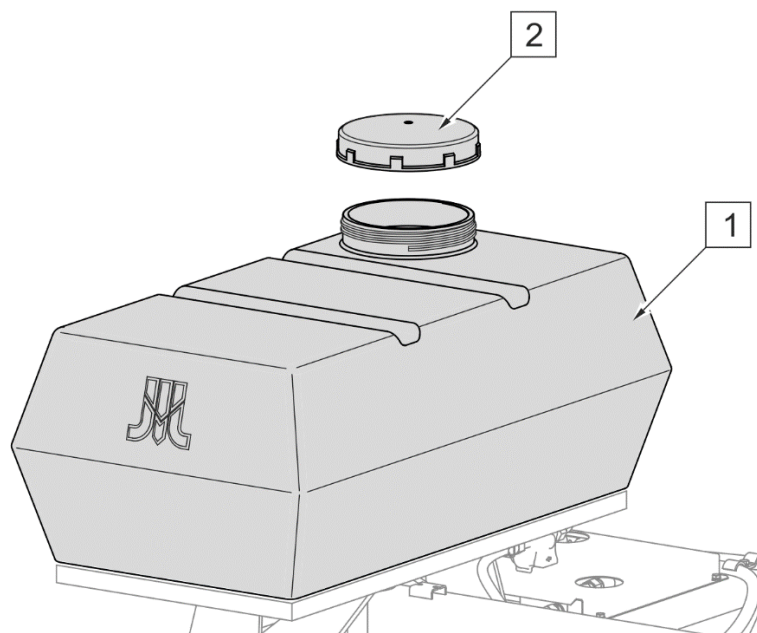

FIG. 4.2 Water tank of sprinkler system
Fill the water tank (1) through the filler opening secured with a cap (2) equipped with a vent (FIG. 4.2).